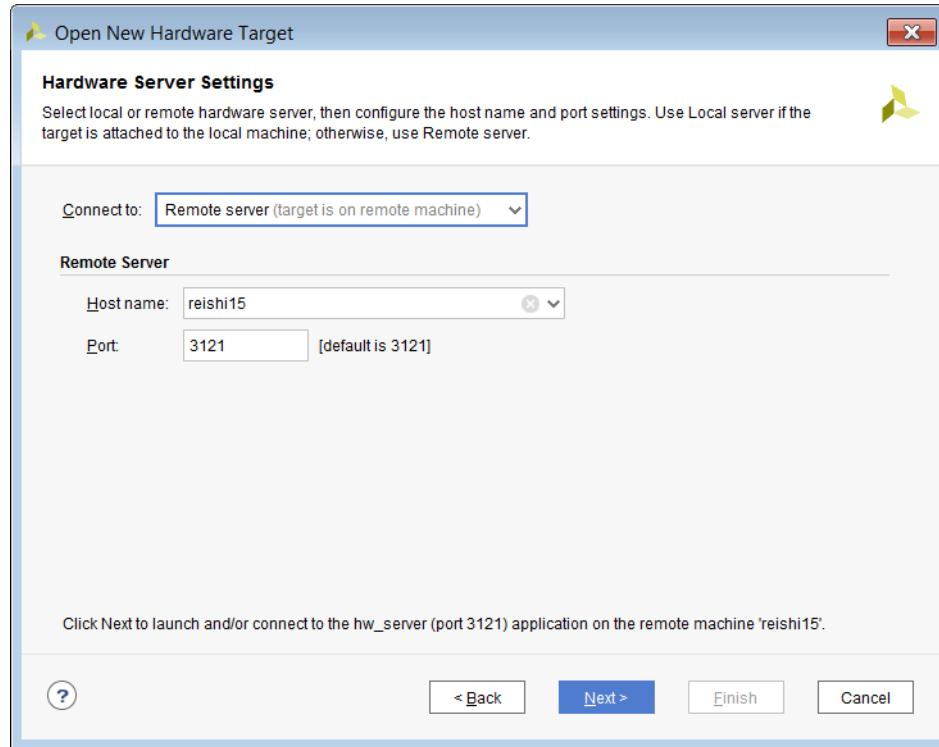

Figure 4-4: Using a Remote Hardware Server
- Remote server: Use this setting if your hardware target is connected to a different machine on which you are running the Vivado Lab Edition or Vivado IDE. Specify the host name or IP address of the remote machine and the port number for the hardware server (`hw_server`) application that is running on that machine (see Figure 4-4). Refer to Connecting to a Remote hw_server Running on a Lab Machine, page 217 for more details on remote debugging.